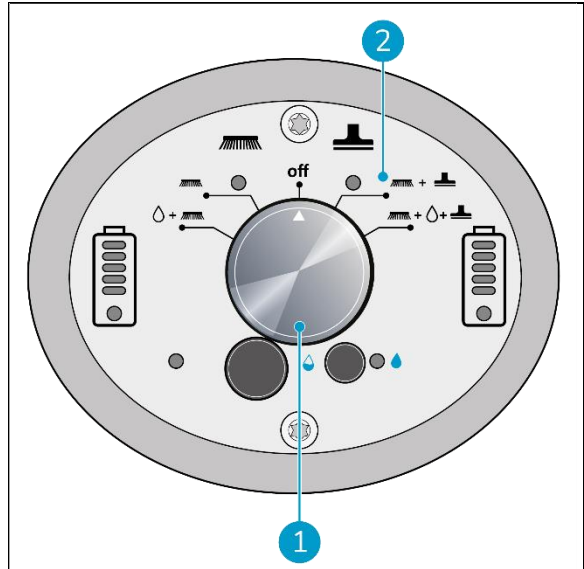

Figure 19
1. Use the i-mop XL basic main switch (Figure 19, pos 1) and choose MODE 3 Brush + Dry vacuum (Figure 19, pos 2).